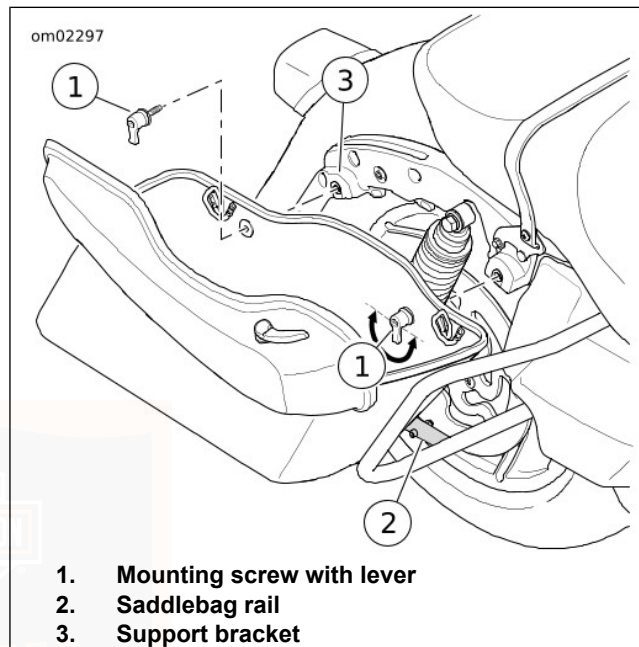

Figure 38. Saddlebag Removal/Installation (typical)
2. See Figure 38. Turn the mounting screw levers counterclockwise to remove the mounting screws from the support bracket.
1. See Figure 38. Carefully place saddlebag in position on saddlebag rail. Align the mounting grommets with the support bracket.